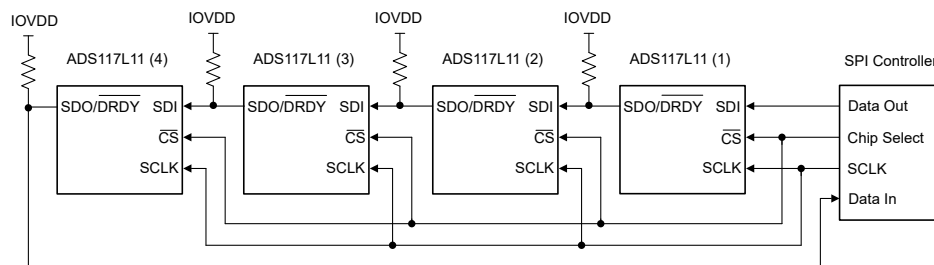

Figure 8-36. Daisy-Chain Connection
Figure 8-36 illustrates four devices connected in a daisy-chain configuration. The SDI of ADS117L11 (1) connects to the host SPI data out, and $\text{SDO}/\overline{\text{DRDY}}$ of ADS117L11 (4) connects to the host SPI data input. The shift operation is simultaneous for all devices in the chain. After each ADC shifts out the conversion data, the data of SDI appears on $\text{SDO}/\overline{\text{DRDY}}$ to drive the SDI of the next device in the chain. The shift operation continues until the last device in the chain is reached. The SPI frame ends when $\overline{\text{CS}}$ is taken high, at which time the data shifted into each device is interpreted. The $\text{SDO}/\overline{\text{DRDY}}$ pin must be programmed to data output-only mode.
Figure 8-38 shows the detailed input data sequence for the daisy-chain write register operation of Figure 8-36. 32-bit frames for each ADC are shown (16 bits of data, with the STATUS and CRC bytes enabled). Command operations can be different for each ADC. The read register operation requires a second frame operation to read out the register data.
Figure 8-39 illustrates the clock sequence to read conversion data from the device connection in Figure 8-36. This example illustrates a 24-bit output frame (16-bits of data, with the CRC byte enabled). The output data of ADC (4) is first in the sequence, followed by the data of ADC (3), and so on. The total number of clocks required to shift out the data is given by the number of bits per frame \times the number of devices in the chain. In this example, 24-bit output frames \times four devices result in 96 total clocks.